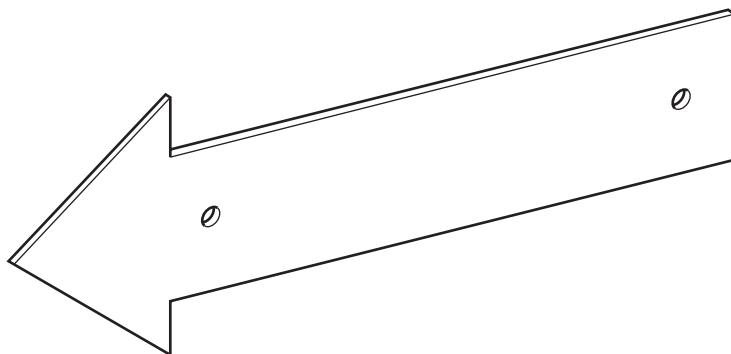

Fig. 5
- 5 Fig. 5 shows a direction arrow made from 2mm thick aluminium alloy sheet.